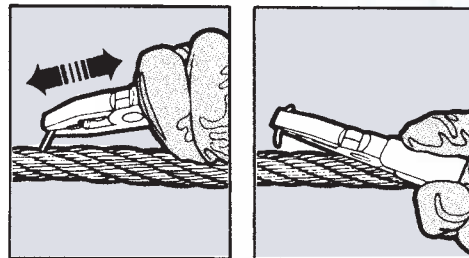

Fig 15
- 4.2** Remove broken wires as they occur by bending backwards and forwards using a pair of pliers until they break deep in the valley between two outer strands (see Fig. 15). Wear protective clothing such as overalls, industrial gloves, helmet, eye protectors and safety footwear during this operation.